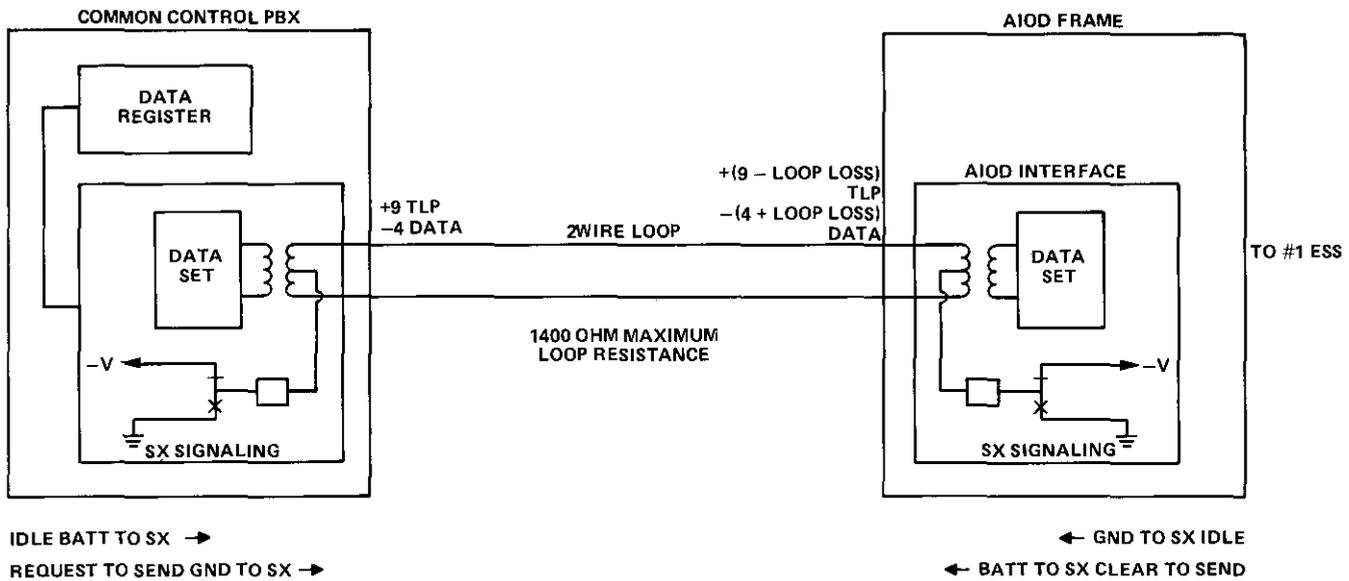
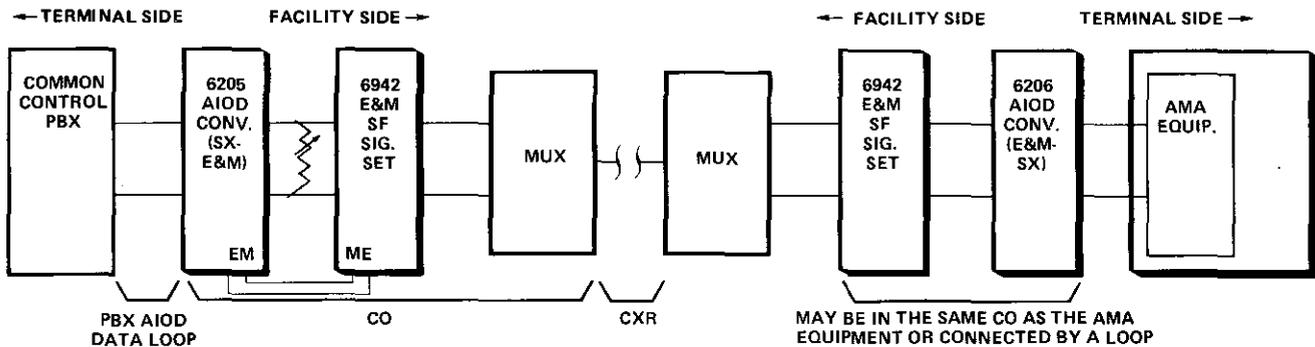

figure 2. Typical local AIOD arrangement
figure 3. Typical 6205 application
2.01 The 6205 AIOD Converter module is used to extend PBX AIOD access to AMA equipment in a distant central office. When AMA equipment is located in the central office serving the PBX, signal-conversion equipment is not usually required (see figure 2). When the local CO cannot accommodate AIOD service, however, access to an AMA register is extended to a larger office. This extension may be via a carrier-derived E&M voice channel, PCM carrier, SF signaling, or, on rare occasions, DX facilities. The 6205 provides conversion between the PBX-CO loop's simplex supervision and a 4wire E&M interface. Figure 3 shows one typical application of the 6205.
The remainder of section 2 discusses operation of the 6205 in a typical application. Figure 4 shows the simplex and E&M states involved in such applications. Keep in mind that at the distant end of the circuit, similar signaling-state changes will take place, possibly via a Tellabs 6206 AIOD (E&M-SX) Converter module (see figure 3).